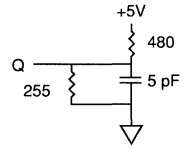

Fig. 2 OUTPUT LOAD EQUIVALENT
6. ^tHZCE, ^tHZOE and ^tHZWE are specified with CL = 5pF as in Fig. 2. Transition is measured ± 500mV from steady state voltage.